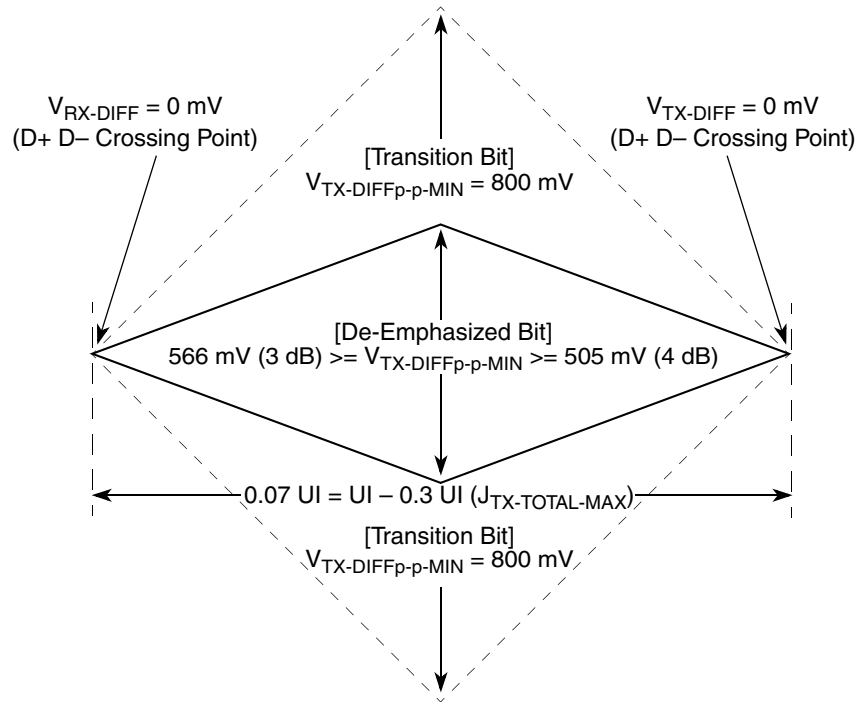
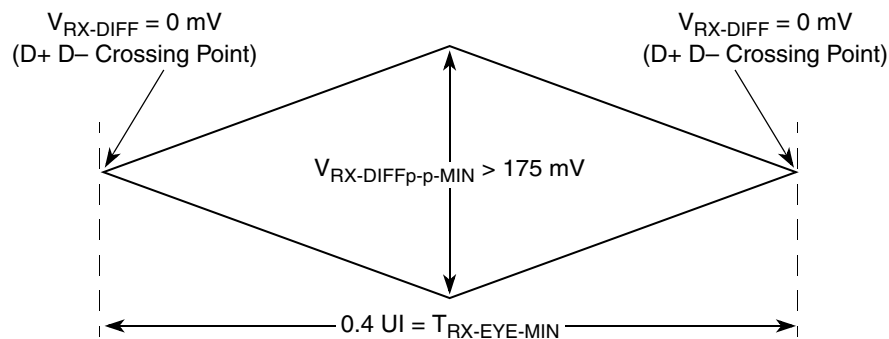
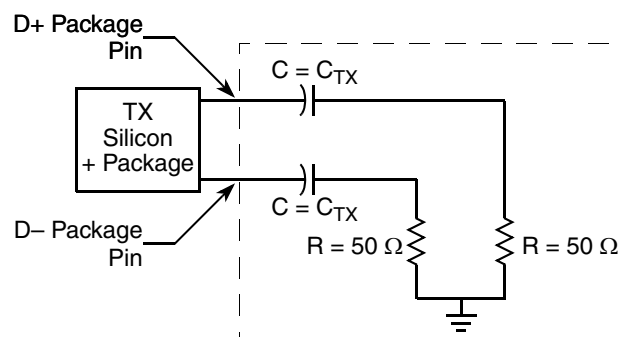

Figure 56. Minimum Transmitter Timing and Voltage Output Compliance Specifications
Figure 57. Minimum Receiver Eye Timing and Voltage Compliance Specification
Figure 58. Compliance Test/Measurement Load
2. Specified at the measurement point into a timing and voltage compliance test load as shown in Figure 58 and measured over any 250 consecutive TX UIs. (Also refer to the transmitter compliance eye diagram shown in Figure 56.)
4. The transmitter input impedance shall result in a differential return loss greater than or equal to 12 dB and a common mode return loss greater than or equal to 6 dB over a frequency range of 50 MHz to 1.25 GHz. This input impedance requirement applies to all valid input levels. The reference impedance for return loss measurements is 50 Ω to ground for both the D+ and D– line (that is, as measured by a vector network analyzer with 50- Ω probes—see Figure 58.) Note that the series capacitors C_{TX} is optional for the return loss measurement.
5. Measured between 20%–80% at transmitter package pins into a test load as shown in Figure 58 for both $V_{\text{TX-D+}}$ and $V_{\text{TX-D-}}$.
The TX eye diagram in Figure 56 is specified using the passive compliance/test measurement load (see Figure 58) in place of any real PCI Express interconnect +RX component.
2. Specified at the measurement point and measured over any 250 consecutive UIs. The test load in Figure 58 should be used as the RX device when taking measurements (also refer to the receiver compliance eye diagram shown in Figure 57). If the clocks to the RX and TX are not derived from the same reference clock, the TX UI recovered from 3500 consecutive UI must be used as a reference for the eye diagram.
4. The receiver input impedance shall result in a differential return loss greater than or equal to 15 dB with the D+ line biased to 300 mV and the D– line biased to –300 mV and a common mode return loss greater than or equal to 6 dB (no bias required) over a frequency range of 50 MHz to 1.25 GHz. This input impedance requirement applies to all valid input levels. The reference impedance for return loss measurements for is 50 Ω to ground for both the D+ and D– line (that is, as measured by a vector network analyzer with 50- Ω probes, see Figure 58). Note that the series capacitors CTX is optional for the return loss measurement.
The RX eye diagram in Figure 57 is specified using the passive compliance/test measurement load (see Figure 58) in place of any real PCI Express RX component.
In general, the minimum receiver eye diagram measured with the compliance/test measurement load (see Figure 58) will be larger than the minimum receiver eye diagram measured over a range of systems at the input receiver of any real PCI Express component. The degraded eye diagram at the input receiver is due to traces internal to the package as well as silicon parasitic characteristics which cause the real PCI Express component to vary in impedance from the compliance/test measurement load. The input receiver eye diagram is implementation specific and is not specified. RX component designer should provide additional margin to adequately compensate for the degraded minimum receiver eye diagram (shown in Figure 57) expected at the input receiver based on some adequate combination of system simulations and the return loss measured looking into the RX package and silicon. The RX eye diagram must be aligned in time using the jitter median to locate the center of the eye diagram.
The reference impedance for return loss measurements is $50\ \Omega$ to ground for both the D+ and D– line (that is, as measured by a vector network analyzer with $50\text{-}\Omega$ probes, see Figure 57). Note that the series capacitors, CTX, are optional for the return loss measurement.
The AC timing and voltage parameters must be verified at the measurement point, as specified within 0.2 inches of the package pins, into a test/measurement load shown in Figure 58.